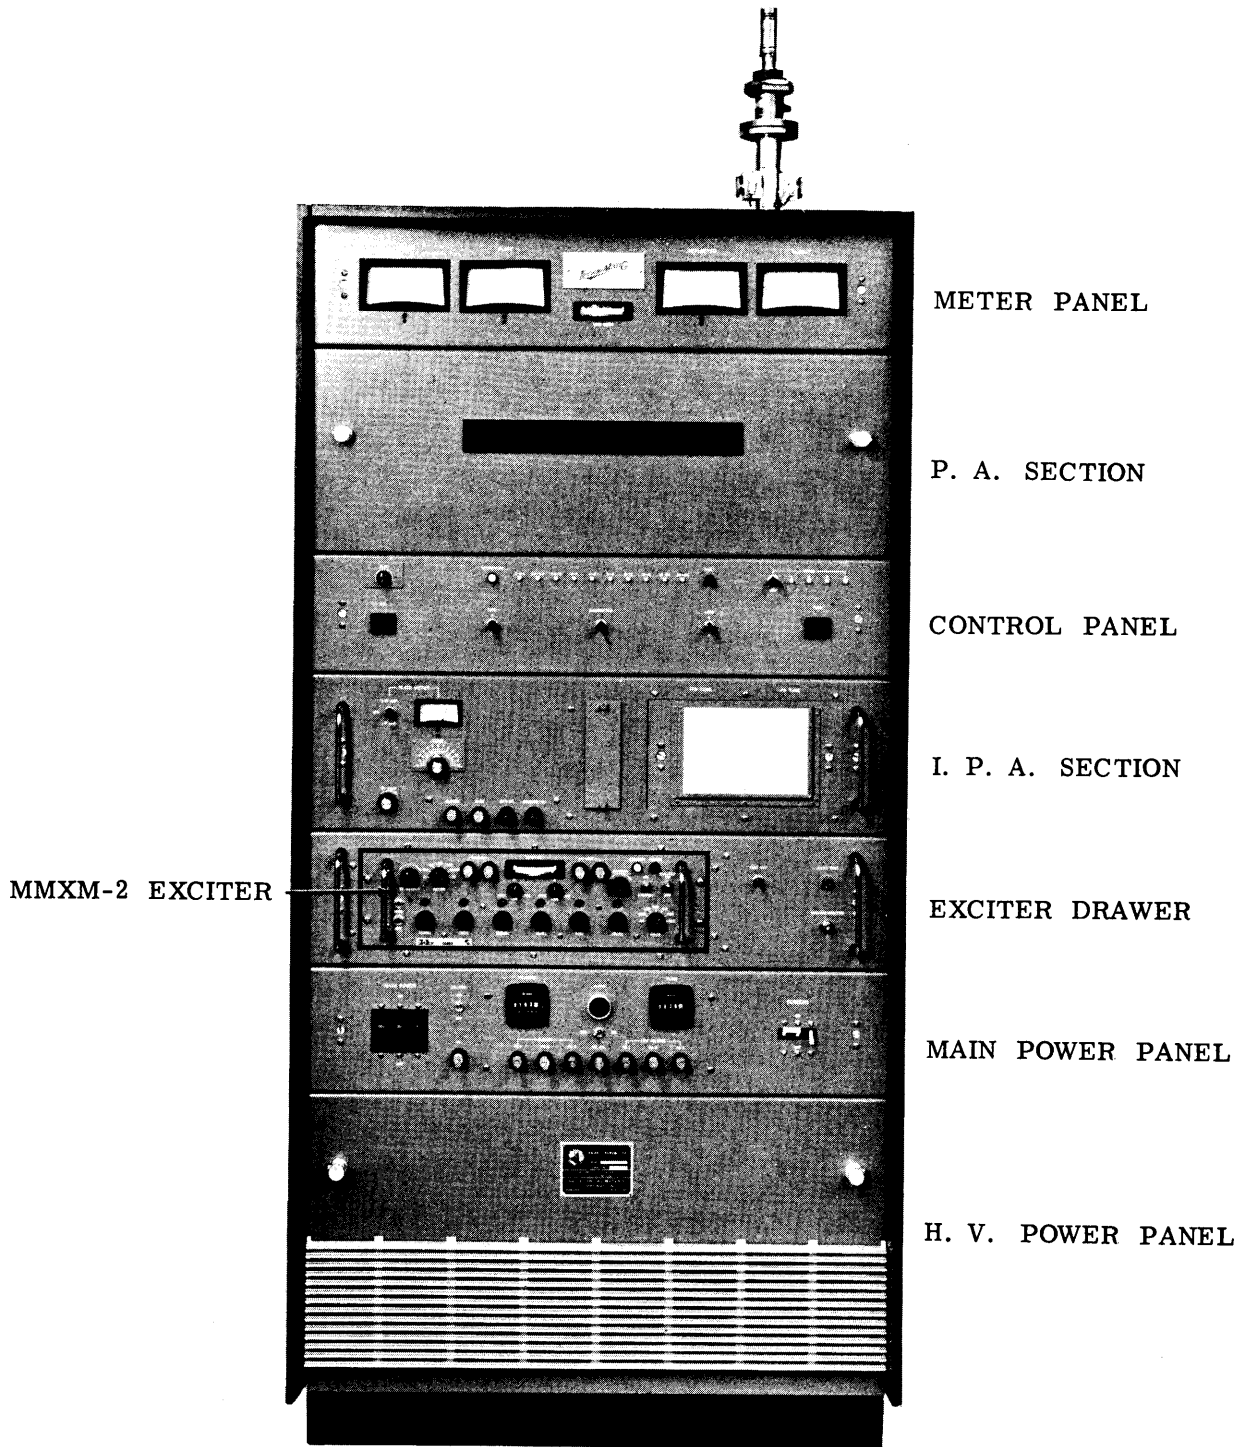

Figure 5-1. HFTM-10KJ, Component Locations, Front View
- b. Component Location (figure 5-1).